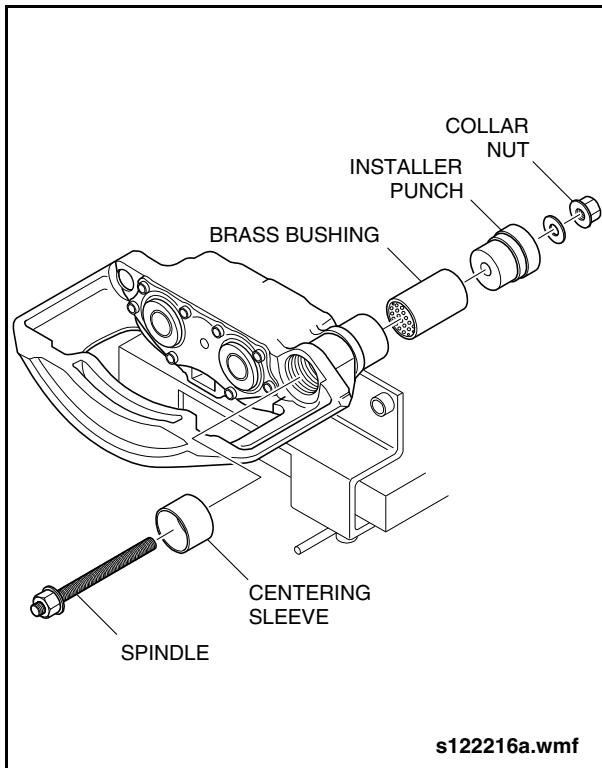

Fig. 1-61: Brass Bushing Installation
- a. Assemble and install the centering sleeve, brass bushing, installer punch, spindle, and collar nut (Items 76, 72, 70, & 71 from special tools list). Ensure that the open side of the centering sleeve is facing away from the caliper. See "Fig. 1-61: Brass Bushing Installation" on page 68.